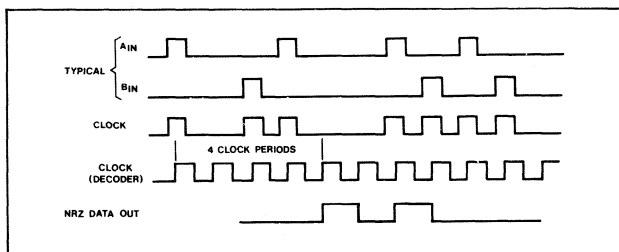

Fig. 4 Decode waveforms
- The decoded NRZ output is delayed by 4 clock periods from the HDB3 inputs ( $A_{IN}, B_{IN}$ ) (Fig.4)